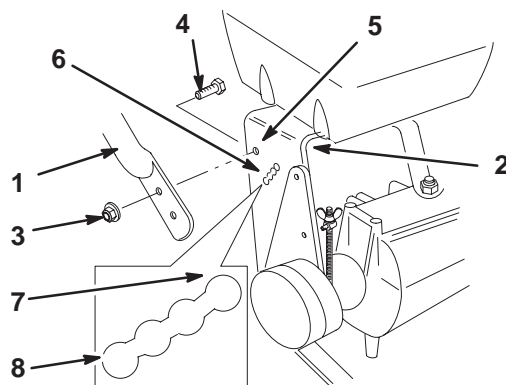

Figure 25
2. Loosen the upper flange bolts (3/8 x 1 inch) and flange nut securing handle to rear frame (Fig. 25).
3. Remove the lower flange bolts (3/8 x 1 inch) and flange nuts securing handle to rear frame (Fig. 25).